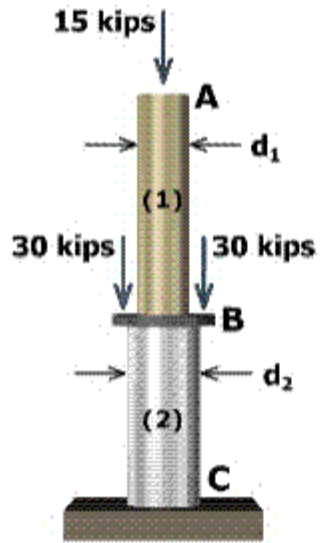

Fig. P1-5/6
1.5 Two solid cylindrical rods (1) and (2) are joined together at flange B and loaded as shown in Fig. P1-5. The diameter of rod (1) is 1.25 in. and the diameter of rod (2) is 2.00 in. Determine the normal stresses in rods (1) and (2).